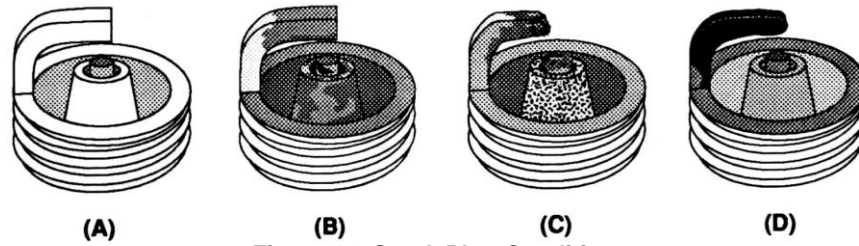

Figure 16 Spark Plug Condition
6. Perform a dynamometer pull or a full throttle pass down the racetrack. Note the power reading or vehicle mph. Examine the spark plugs for signs of detonation (refer to Figure 16 for tips on reading spark plugs).